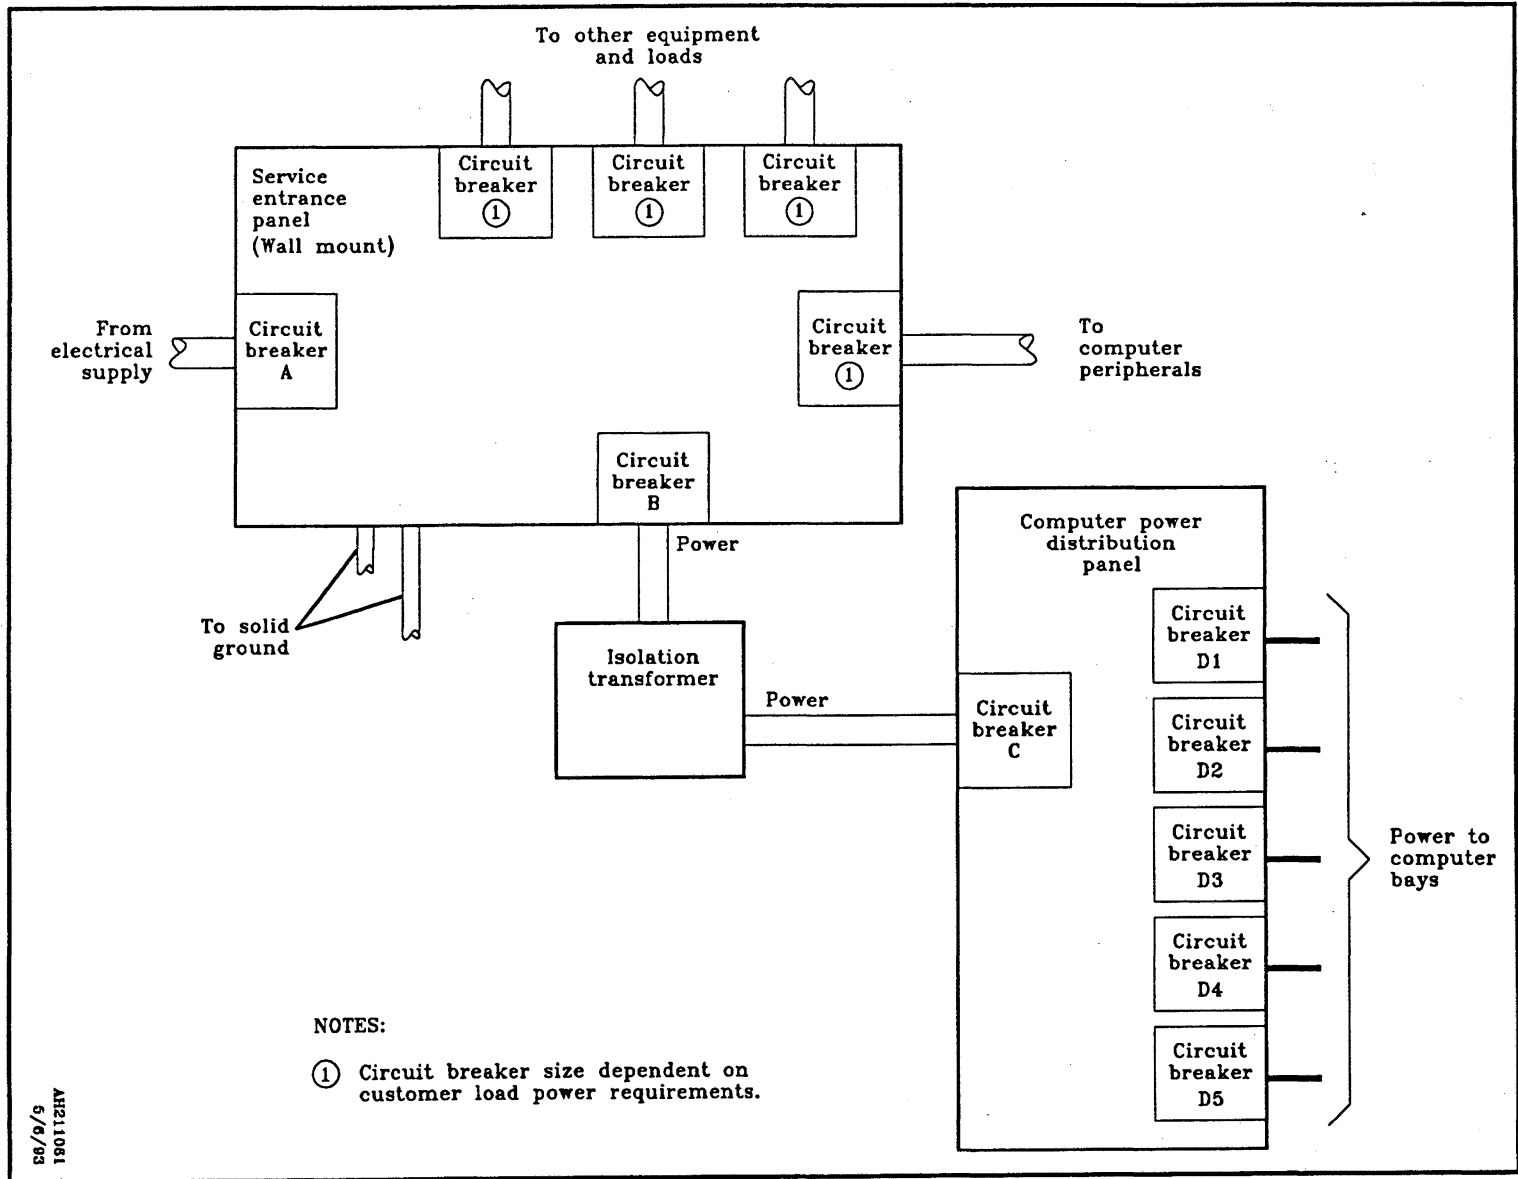

Figure 2 Dedicated power system circuit breaker locations
The dedicated power system requires the following circuit breakers at the points shown in Figure 2:
- One circuit breaker at entrance panel input (Figure 2, circuit breaker A), sized to customer specifications and consistent with local electrical codes.
- One circuit breaker at entrance panel output to computer isolation transformer (Figure 2, circuit breaker B), of standard size not larger than the value shown in Table 1, but at least as large as the value shown in Table 2.
The selected circuit breaker size (Figure 2, circuit breaker C), must not exceed the current rating of the selected power panel.
- One circuit breaker at input (Figure 2, on page 6, circuit breaker C), of standard size not larger than the power panel capacity, but at least as large as the value for your configuration shown in the Table 2 column labeled "208 Vac @ 60 Hz."
- A 60 A circuit breaker on each bay power drop (Figure 2, circuit breakers D1 through D5)